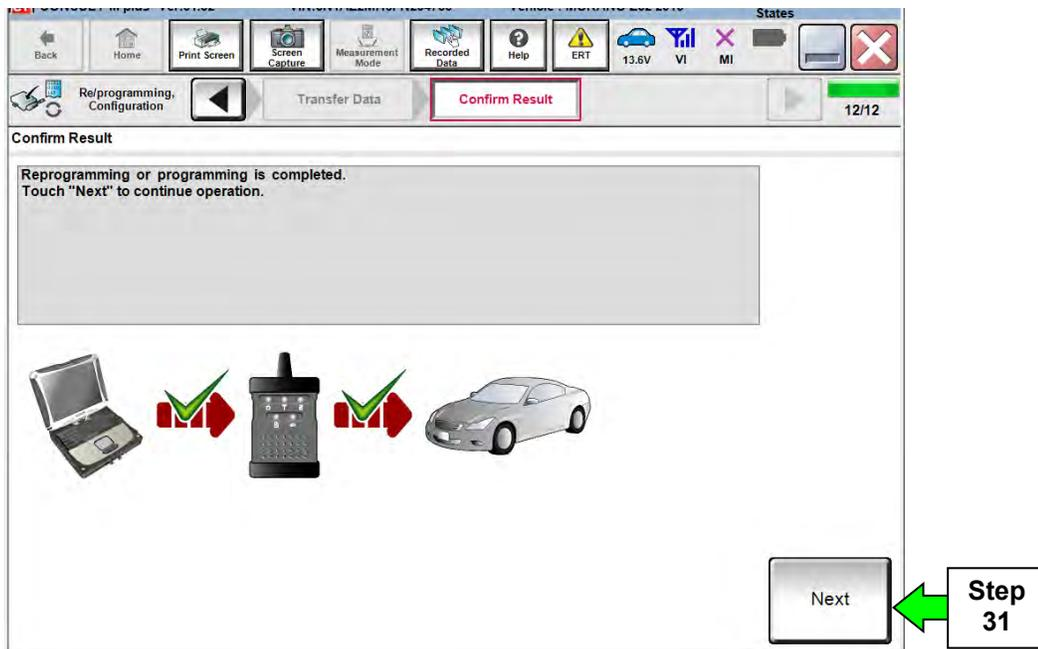

Figure 19
30. When the screen in Figure 19 displays, reprogramming is complete.
NOTE: If the screen in Figure 19 is not displayed (which indicates reprogramming did not complete), refer to the information on the next page.